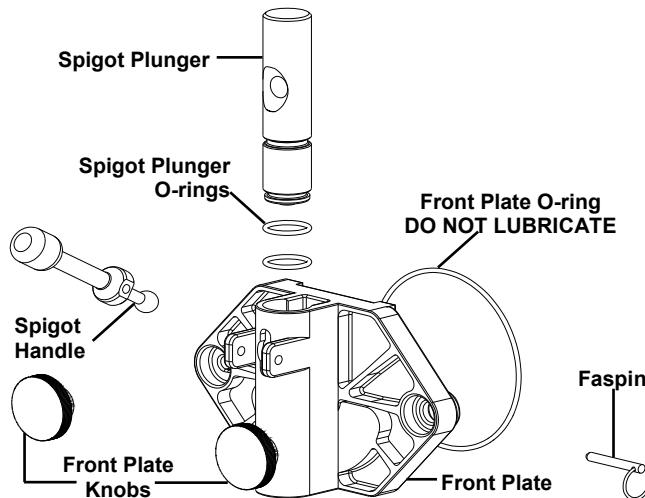

Fig. 30
3. Lubricate and assemble the front plate (Fig. 30) in the following manner: